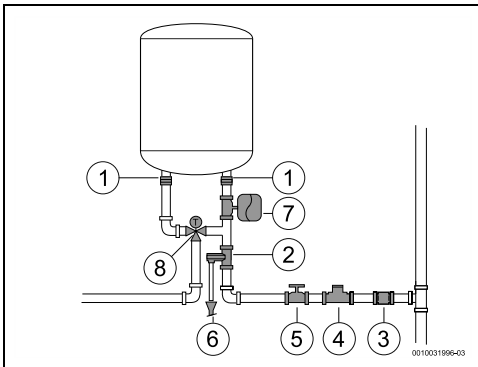

Fig. 13
- ▶ install a reduce valve (Fig. 13, [4]). The pressure relief valve is always triggered once the water pressure in the tank exceeds 8 bar ( $\pm 1$  bar), and the discharge water then needs to be channelled off.
- ▶ install an expansion vessel (Fig. 13, [7]) to avoid opening the pressure relief valve so frequently. The volume of the expansion vessel must be equivalent to 5% of the appliance volume.